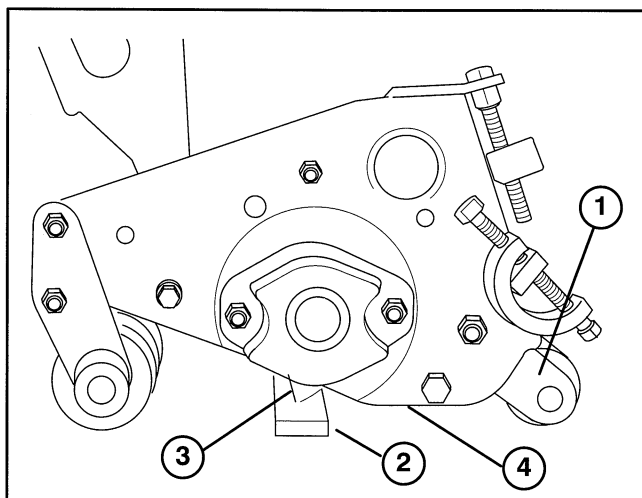

Figure 6
2. Place a 1/4 inch or thicker plate under the reel blades and against the cutting edge of the bedknife (Fig. 6). Rear roller should not contact surface.